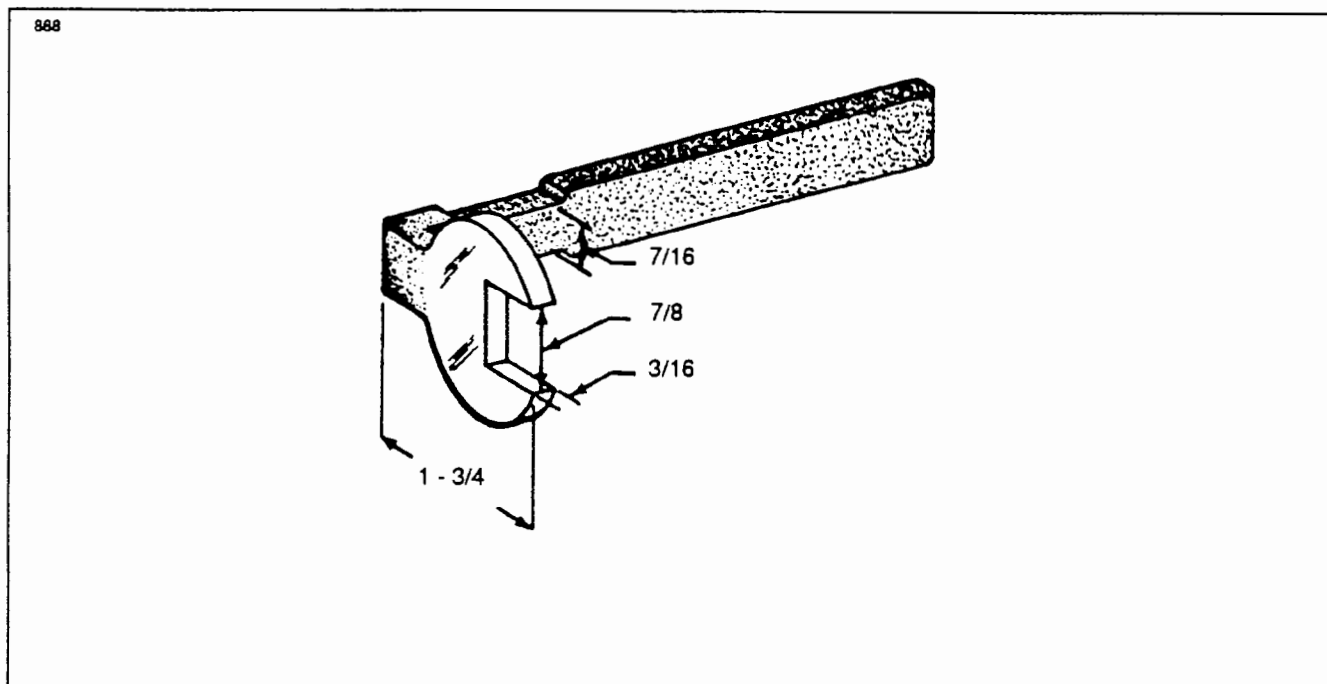

Figure 52-2. Fabricated Tool for Baggage Door Lock
2. Remove the nut from the back of the lock assembly with the use of a special wrench. (This tool may be fabricated from the dimensions given in Figure 52-2.)